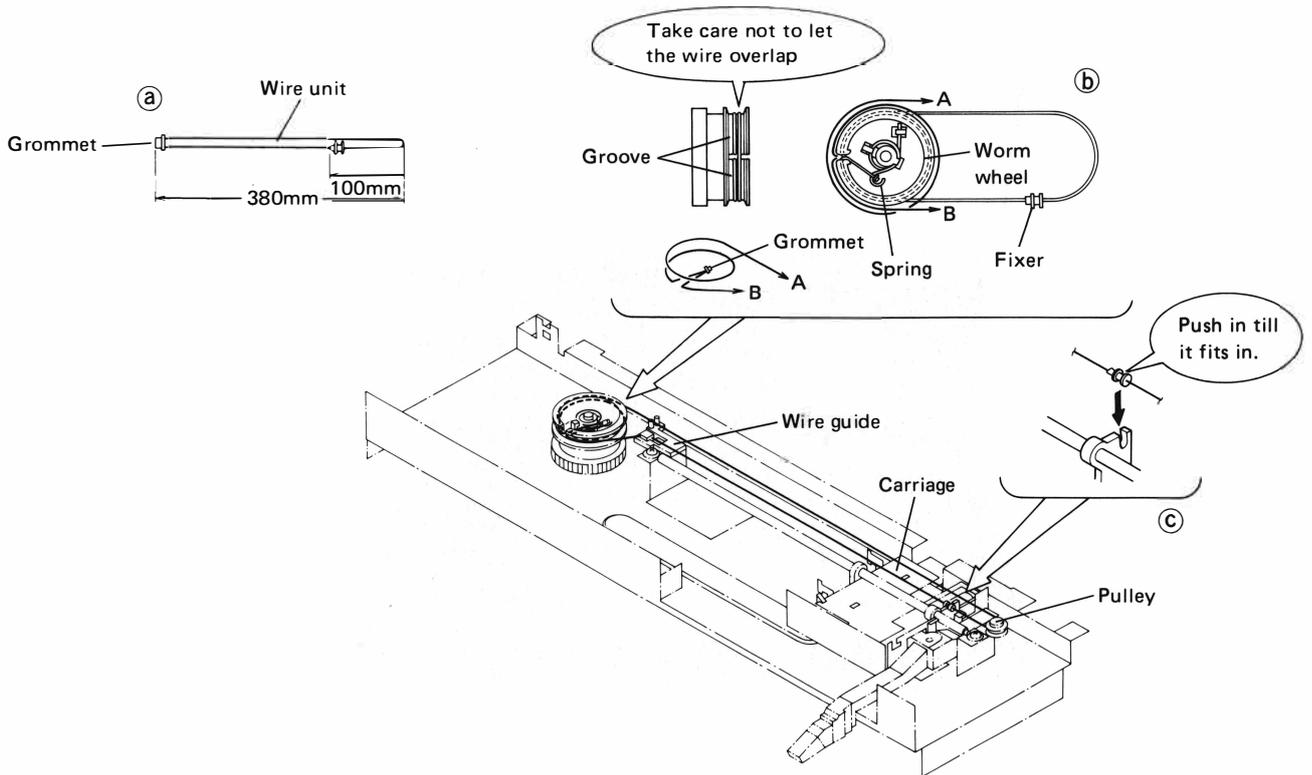

Fig. 6-4 Wire Replacement
- Adjust the length of the wire unit as shown in figure 6-4 (a).
- Attach the wire unit grommet to the spring of the worm wheel as shown in figure 6-4 (b). Then wind the wire onto the worm wheel taking care not to let it get caught in the worm wheel groove. Also be careful not to let the wire overlap.
- As shown in figure 6-4 (c), put the wire around the pulley, and push the fixer into the carriage until it locks with a click.